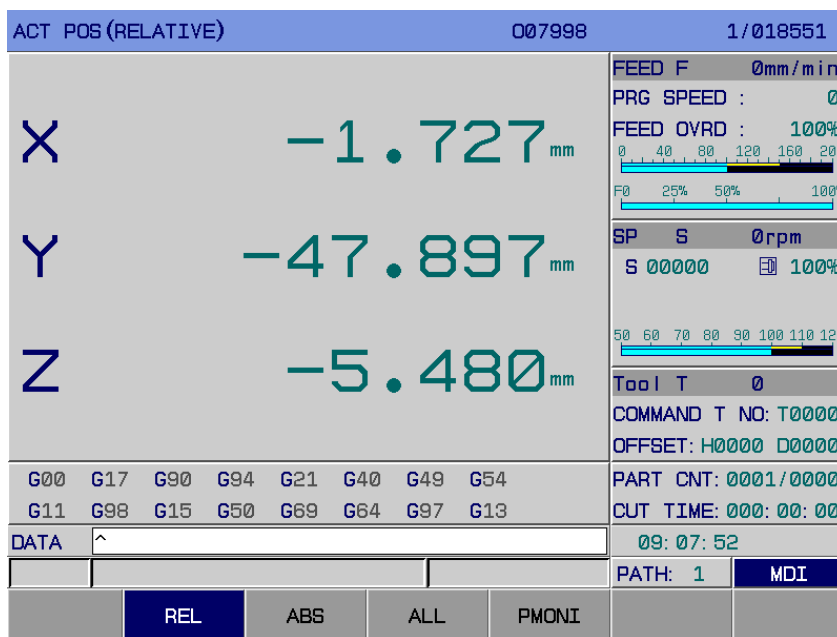

Fig. 3-1-3-1
1) Enter any interface with the relative coordinate display (Refer to the Fig. 3-1-3-1)
2) **Clearing operation:** The X flashes by the “X” button, then press the , in this case, the relative coordinate value towards to the X is already cleared (Refer to the Fig. 3-1-3-2);